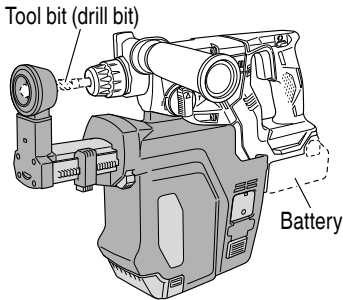

Fig. 2
1. Attaching and removing the dust extractor system (Fig. 2, 3, 4)
- When attaching, removing, or adjusting the dust extractor system, in order to prevent an unlikely accident, be sure to turn off the tool's switch, and remove the tool's battery and tool bit. (Fig. 2)